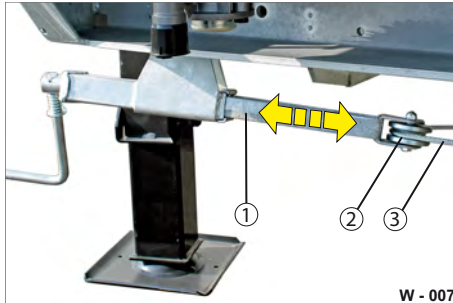

Fig. 10 Lubricating spindle parking brake
- ▶ Check the stroke linkage (Fig. 10/1), guide pulley (Fig. 10/2) and transfer cable (Fig. 10/3) for damage/ deformation/cracks.
- ▶ Lubricate the guide pulley (Fig. 10/2).